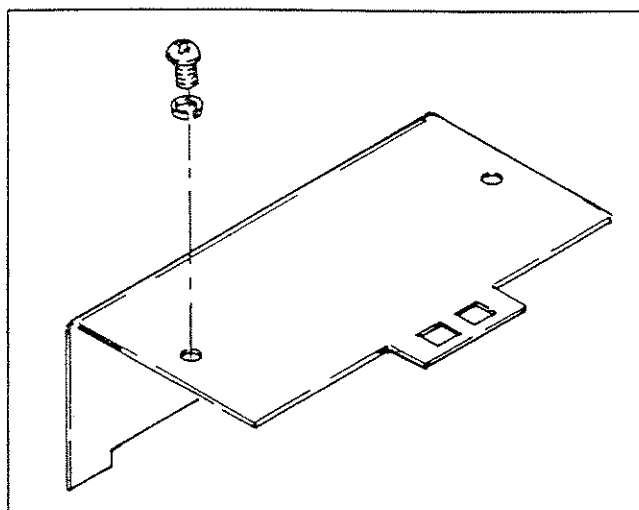

Figure 6. Cover Removal
3. Remove the two (2) screws (with flatwashers and lockwashers) that retain the cover (Figure 6). Then, remove the cover and proceed as follows:
3. The cover (Figure 6 on Page 5.4-5) has already been removed and the solenoid coil is exposed. Remove the clear plastic insulator from the solenoid coil. A red (+) and a white (-) wire connect to the coil. Remove these two wires from the coil.